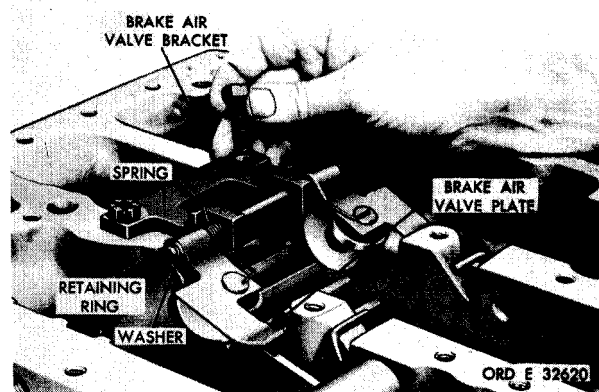

Figure 201. Installing transmission brake air valve assemblies
a.n. Install retaining rings, brake air valve plates and springs on brake air valve bracket as shown (fig. 201).